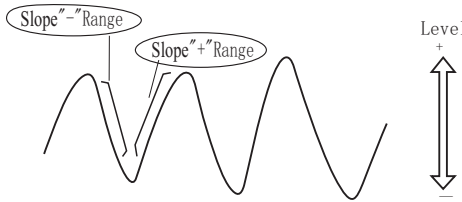

Figure 4--6
Now, apply the calibrator signal to the vertical input terminal of CH 2 with the probe as is the case for CH 1. Set the AC-GND-DC switch to the AC state. Adjust vertical POSITION knobs (11)and (19)so that both channel signals are displayed as shown in Figure4 -4